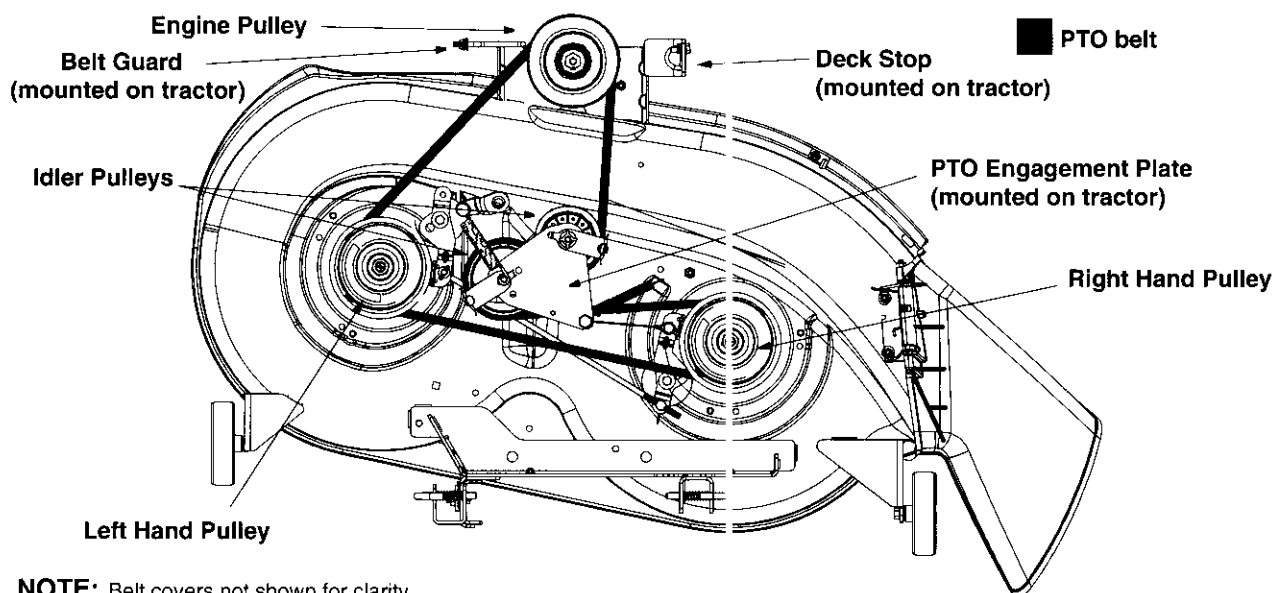

Figure 17
- Remove the PTO belt from around the bottom portion of the engine pulley and from around the two idler pulleys found on the PTO engagement plate. See Figure 17.
- Route the new belt as shown in Figure 17, around the deck pulleys, idler pulleys and engine pulley. OEM belt part numbers are listed in the table on the following page.